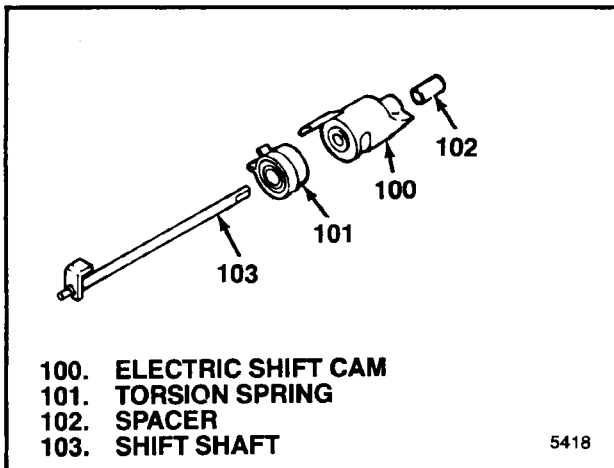
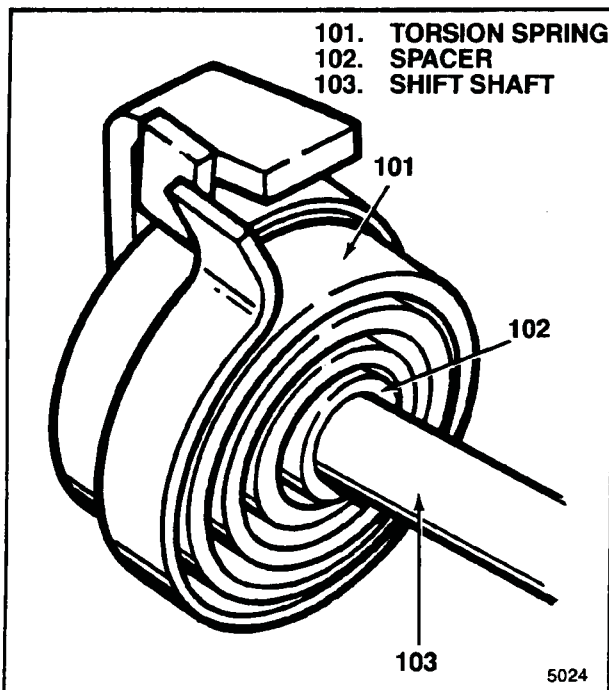

Figure 5-3. Electric Shift Cam Parts
Figure 5-4. Installing First Spring End
**5-6. ASSEMBLY OF SHIFT CAM PARTS (ELECTRIC SHIFT TRANSFER CASE ONLY).** On electric shift units, assemble the following (see figure 5-3):
- Insert spacer (102) in torsion spring (101) ID and install over free end of shift shaft (103).
- Slide torsion spring (101) and spacer (102) on shift shaft (103) up to drive tang and position first spring end to left (viewed from free end of shaft) of drive tang (see figure 5-4).